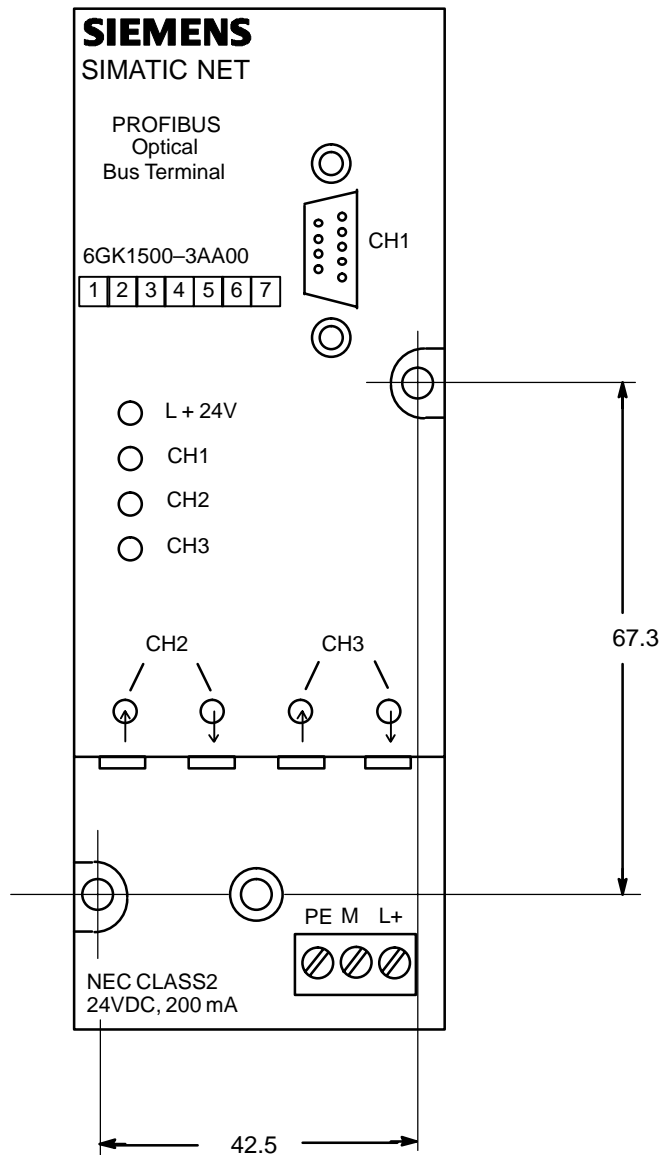

Figure 5-2 Installing a Module on a Mounting Plate
- Drill two holes in the mounting plate as shown in the drill template in Figure 5-2.